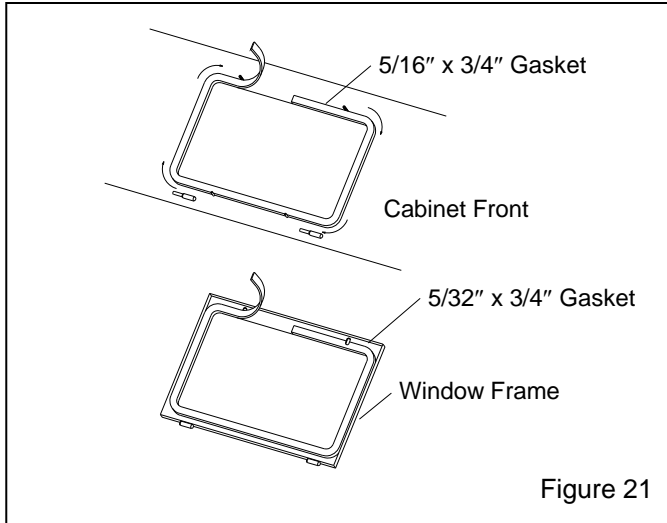

Figure 21
7.5 Window Gasket Replacement, Figure 21
7.5.4 Peel a short section of adhesive backing from the 5/16"-thick strip, and adhere the gasket to the center of the top edge of the window opening, as shown in Figure 21. Peel additional backing as needed, and work the strip around the radius of each corner, pressing it firmly to bond. Trim the gasket to fit and compress the ends to seal.